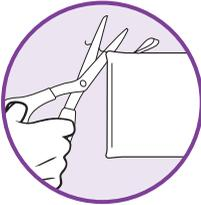

fig.28
- 2 If there are loose threads on the micro-fiber cleaning pad carefully cut the thread with scissors. Do not pull on them or cut at the base. (fig. 28)